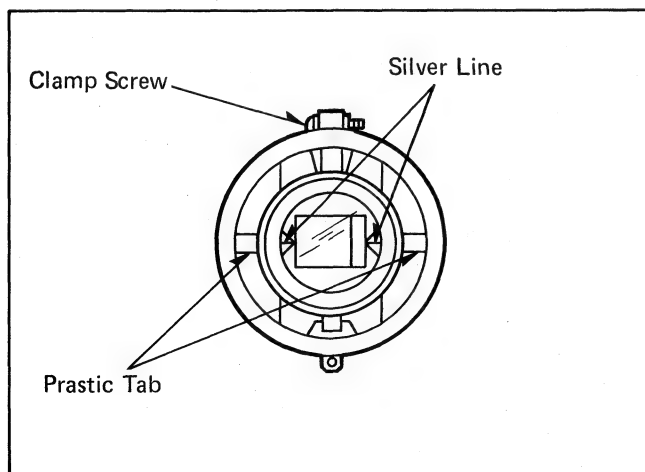

Fig. 12
- 3-11. Line up the plastic tab on the D.Y. assembly with the silver line on the face of the pick-up tube as shown in Fig. 12.